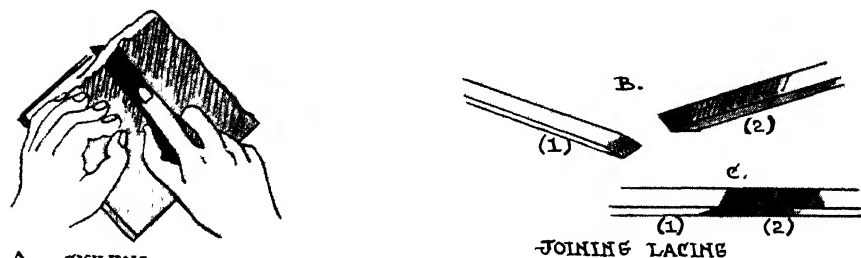

Fig. 6—Skiving and Joining Lacing
When more than one piece of leather is going to be used, as in a wallet or purse, the fleshy sides of the leather are tapered down at the edges (skived) to reduce the thickness. (Fig. 6-A.) Skive off layers of the fleshy surface until the desired thinness is reached.
To join two pieces of lacing, skive the upper side of one end (Fig. 6-B (1), and then skive the under side of the second end piece. (Fig. 6-B(2.) Apply rubber cement to both skived surfaces and allow them to dry thoroughly. Then overlap the skived edges and press firmly in place. (Fig. 6-C.) When pieced in this manner, the joining will not be visible. (Fig. 6-C (1) and (2.)